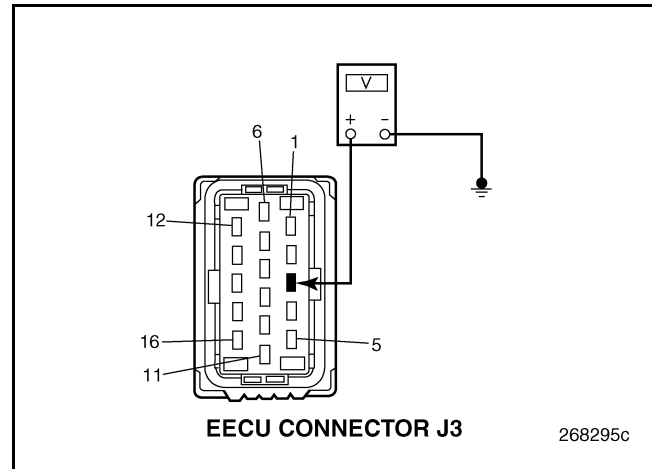

Figure 787
4. Measure the voltage between EECU connector J3 pin 3 and a good ground (see Figure 787).